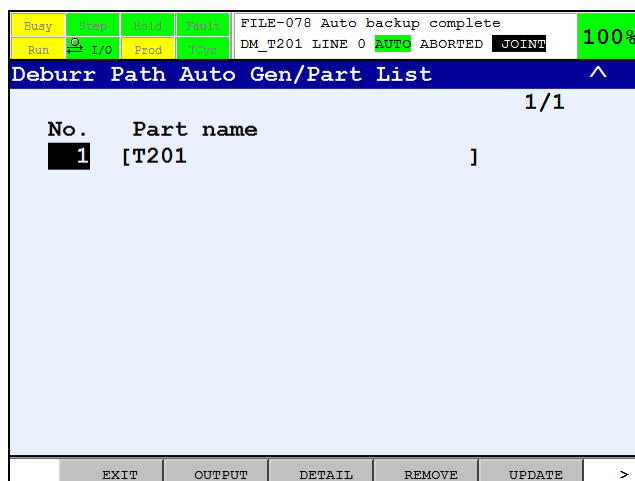

Fig. 5.2.1(a) Part List screen
- 1 Select "MENU" → "1 UTILITIES" → "3 Force Sensor" → "5 Deburring Path Auto Generation" to display the "Debur Path Auto Gen/Part List" screen (Fig. 5.2.1(a)). This screen lists all the part data loaded to the controller.